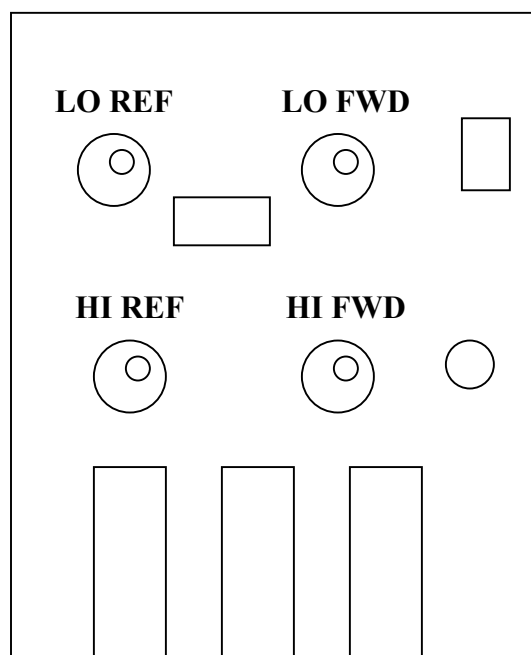

Figure 2: **PCB Layout and Trim Pot Location**
1. Refer to *Figure 1* for the Test Setup and refer to the PCB layout in *Figure 2* for trim pot location.